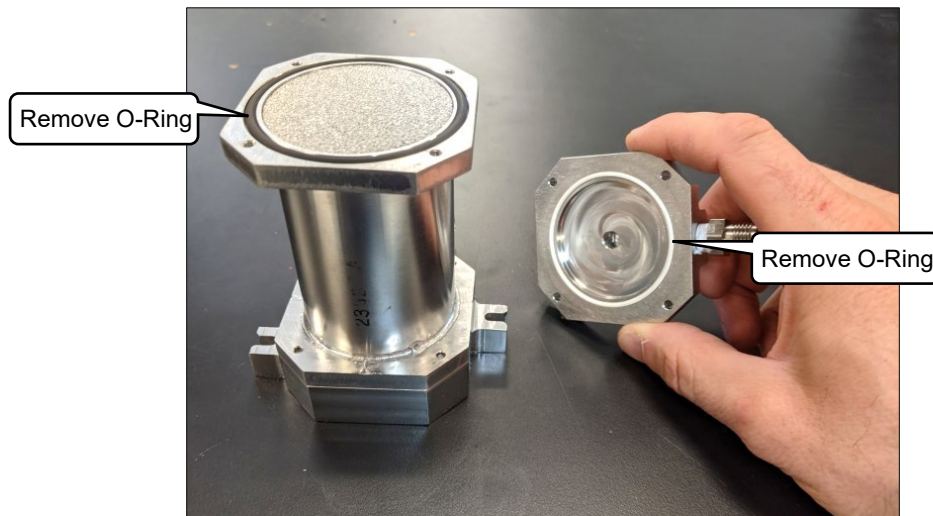

Figure 48: Removing Top Cover and O-rings
6. Carefully remove the top cover. Remove both o-rings (Figure 48).